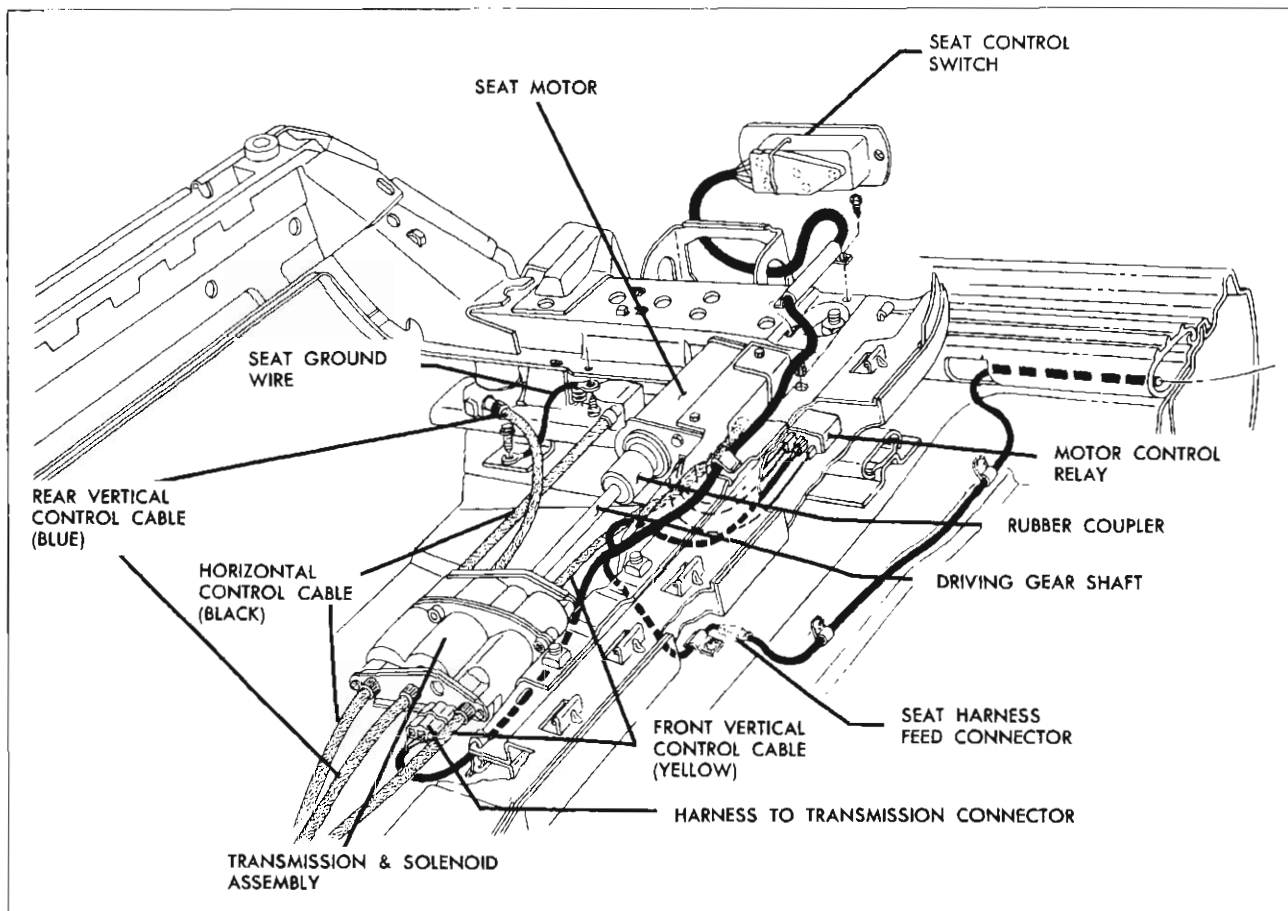

Fig. 105—Six Way Seat Installation
The solenoid which operates the blue drive cable (Fig. 105), controls the vertical movement of the rear edge of the seat. The solenoid which operates the black
2. Detach three power drive cables from adjuster to be removed. (Fig. 105).
Description The seat adjusters are actuated by a 12-volt motor installed at the left side of the seat assembly (See Fig. 105). The motor is energized by a (3) button-type control switch located in the left seat side panel.